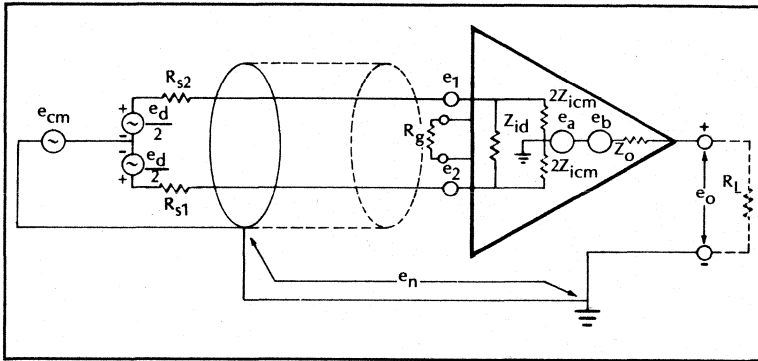

FIGURE 2. Simple Model of an Instrumentation Amplifier Shown in a Typical Application Configuration.
**Input Impedance** - A simple model of a realistic instrumentation amplifier is shown in Figure 2. The impedance  $Z_{id}$  represents the differential input impedance. The common-mode input impedance  $Z_{icm}$  is represented as two
**Common-mode Rejection** - As illustrated in Figure 2, the output voltage has two components. One component is proportional to the differential input voltage  $e_d = (e_2 - e_1)$ . The second component is proportional to the common-mode
input voltage. The common-mode voltage which appears at the amplifier's input terminals is defined as  $E_{CM} = e_2 + e_1/2$ . This may consist of some common-mode voltage in the source itself,  $e_{CM}$ , (such as bridge excitation) plus any noise voltage,  $e_n$ , between the source common and the amplifier common. As shown in Figure 2, the constant  $G$  represents the differential amplifier gain factor (fixed by the external gain-setting resistor). The constant  $(G/CMRR)$  represents the common-mode signal gain of the amplifier. The CMRR (common-mode rejection ratio) is the ratio of differential gain to common-mode gain. Thus CMRR is proportional to the differential gain and CMRR increases as the differential (gain  $G$ ) increases. Hence, CMRR is usually specified for the maximum and the minimum values of gain of the amplifier. The common-mode rejection may be expressed in dB as  $-CMRR (dB) = 20 \log_{10} CMRR$ .
Source Impedance Unbalance - If the source impedances are unbalanced the source voltages ( $e_{CM} + e_n$ ) are divided unequally upon the common-mode impedances and a differential signal is developed at the amplifier's input. This error signal cannot be separated from the desired signal. In the circuit in Figure 2 if  $R_{S2} = 0$ ,  $R_{S1} = 1k\Omega$ ,  $e_{CM} + e_n = 10V$ , and  $Z_{CM} = 100M\Omega$ , then the effect of unbalance is to generate a voltage.